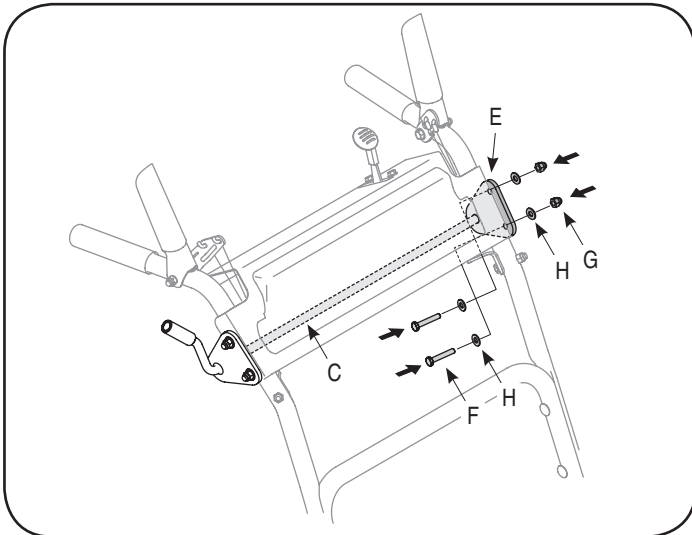

Figure 6
2. Align holes in rod bracket [E] with holes in panel while placing end of rod assembly [C] through the bracket. Secure with the following items from the hardware pack, Figure 6: